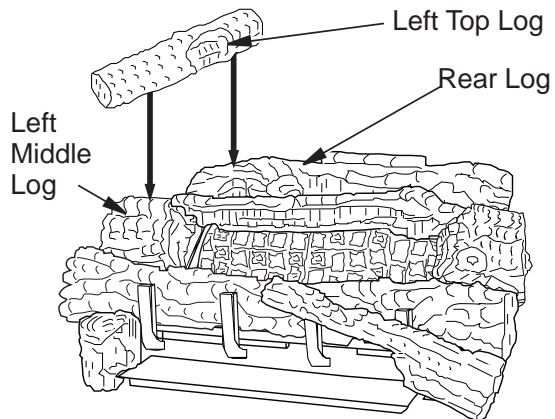

Figure 32 - Installing Left Top Log
9. Place the left top log onto the rear log and the left middle log. Make sure to place the projection on the bottom of the left top log into the recessed areas on the rear and left middle logs (see **Figure 32**).